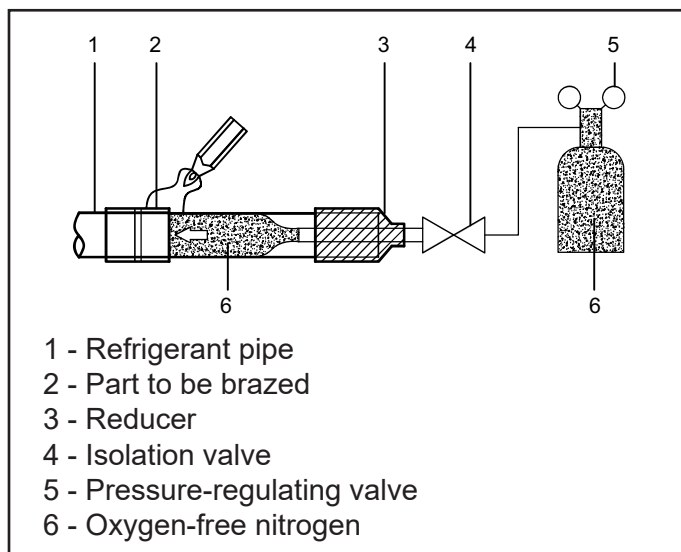

Figure 22. Brazing Best Practices
2. Locate the terminal strip in the outdoor unit control box. Connect the power wiring (sized per NEC/CEC and local codes) and communications cable (3-conductor, shielded cable) per Figure 22. Refer to unit nameplate for rated voltage.